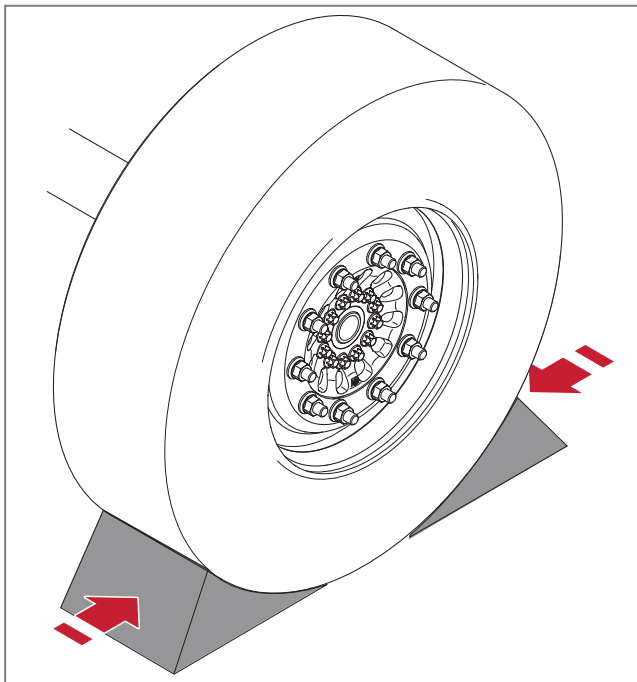

Fig. 5 - Securing the wheels
1. Secure the wheels on a flat and level surface, see ► *Fig. 5*